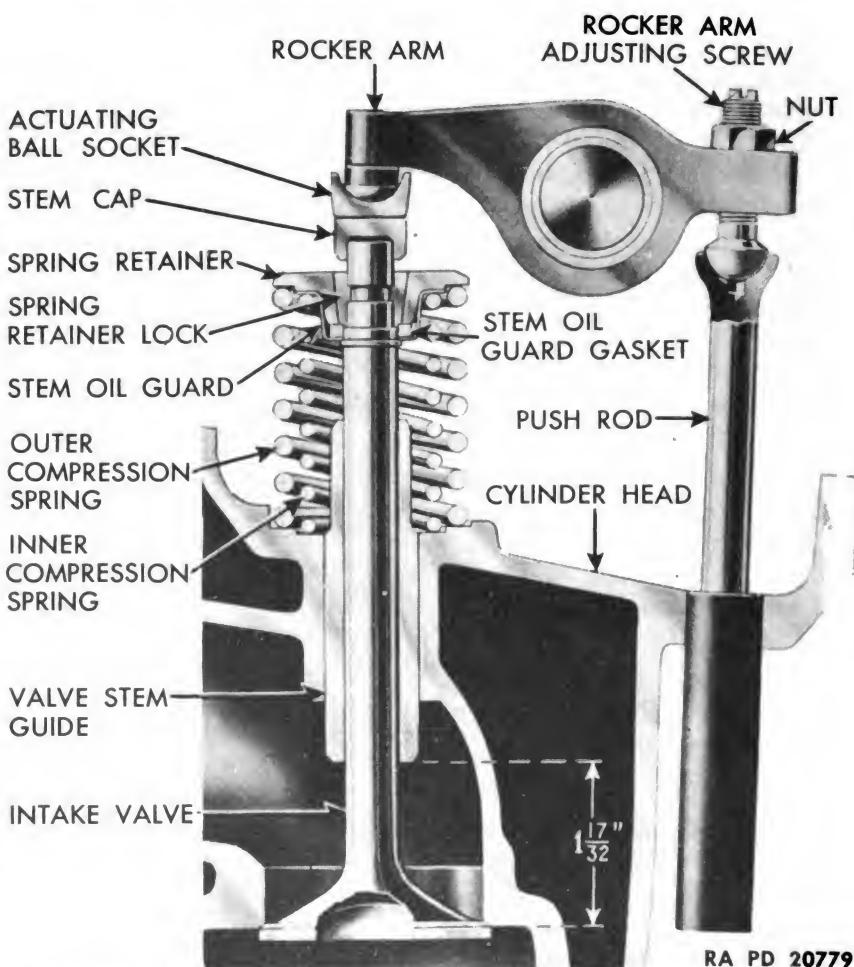
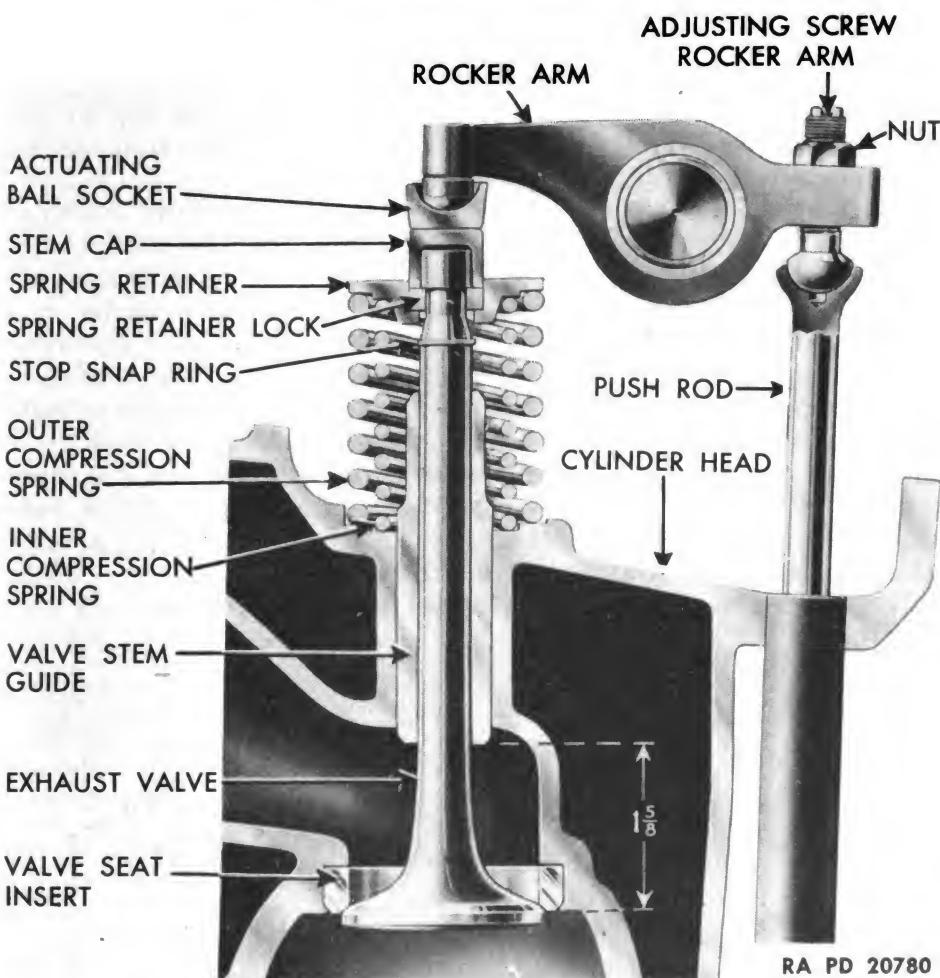

Figure 47 — Cross-Section of Intake Valve Assembly
Figure 48 — Cross-Section of Exhaust Valve Assembly
(3) **VALVE GUIDES.** Place head bottom side up, supported by a piece of wood at each end. Drive old guides out with a $\frac{7}{8}$ -inch drift. Replace new guides with same drift. Drive intake guide in until end of guide is $1\frac{7}{32}$ inches from face of valve seat (fig. 47). The exhaust valve guide is driven in until end is $1\frac{5}{8}$ inches from valve seat (fig. 48). After installing guides, ream to 0.4985 to 0.4990 inches. Valve seats should always be refinished after new guides are installed. Refer to step (1) above for refinishing of valve seats.
e. Assemble. Place valves in cylinder head, and lap in place. If valve refacing (subparagraph d (2)) and valve seat grinding (subparagraph d (1)) have been done properly, very little lapping will be necessary. After lapping, rub a very thin coating of Prussian blue paste in oil on the valve face, and bounce valve on its seat to check for effective seating. Place valve stop snap rings in place in valve stem groove. Place valve springs, retainers, and locks in position on valves (figs. 47 and 48). *NOTE: The exhaust valve retainers are much thinner than intake retainers and have a straight recess for the lock, whereas intake retainers have a tapered recess for lock. The exhaust valve retainer locks are thinner than intake locks and have parallel sides, whereas intake locks are tapered.* Assemble oil guards and new oil guard gaskets on intake valves. Place valve lifter (41-L-1408) in position (subparagraph a above). Depress lifter lever and insert locks in proper position. Release lifter lever, and remove lifter. Repeat operation for other 11 valves.